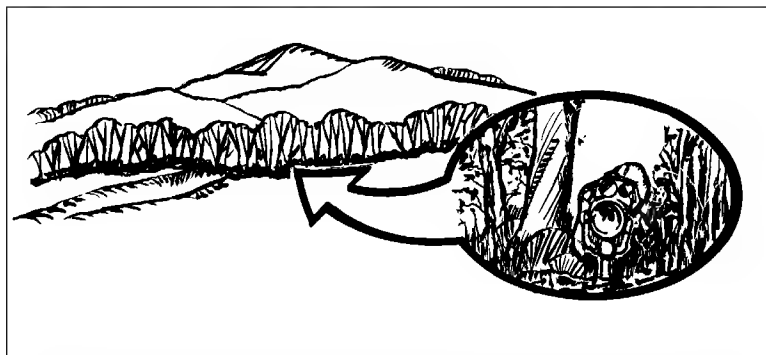

Figure 8-2. Use of natural cover and concealment.
- a. Use natural cover and concealment. Choose positions where the terrain provides *cover* from enemy fire and *concealment* from enemy ground and aerial observation (Figure 8-2).